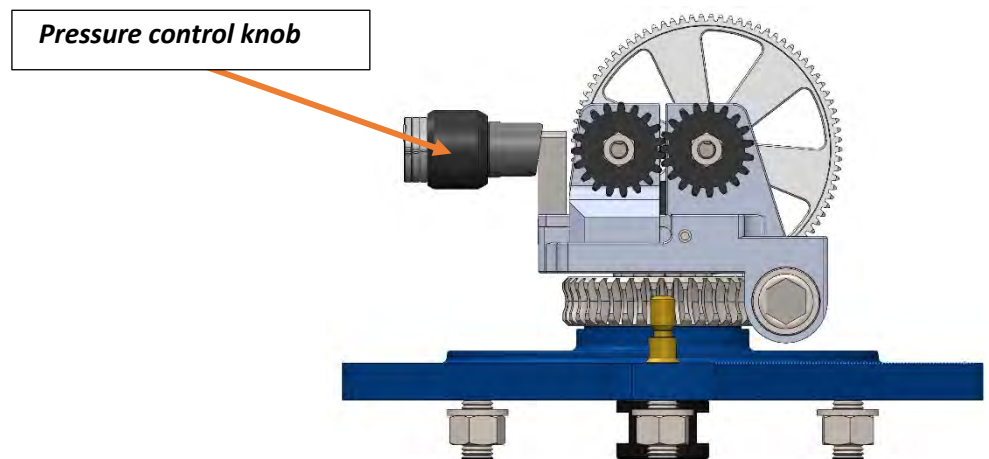

Figure 20
2. Unscrew the pressure knob located on the side of the Twister. Figure 20;